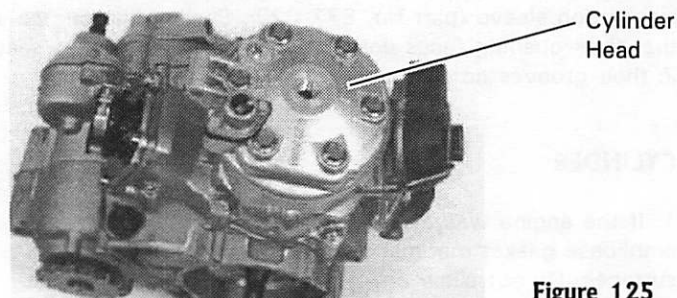

Figure 125
4. Install the cylinder head (Figure 125).